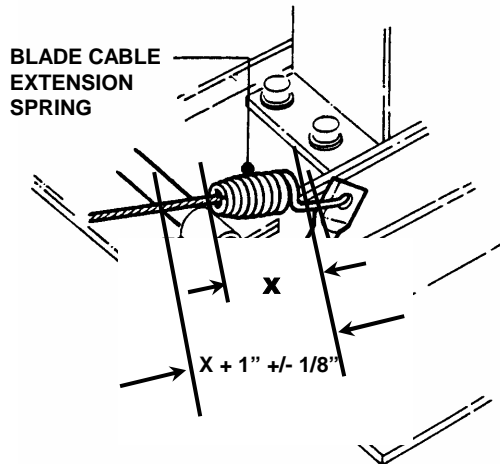

FIGURE 4.3
7. Measure blade cable extension spring. Spring should extend 1" \pm 1/8" for proper belt tension. See Figure 4.3
10. Measure extension spring with blade engagement lever in the "ON" and "OFF" positions. See Figure 4.3. Continue adjustment until tension is correct.